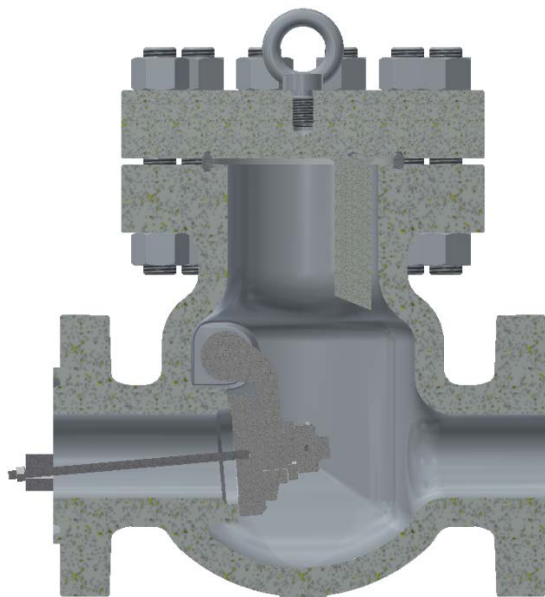

Fig. 2 Swing Check Valve with safety fuse
- The swing check valves nominal diameter \geq DN 100 are supplied with blocked disc how to prevent damage to the sealing surfaces during transport. Before installation it is necessary to remove the safety fuse (Fig. 2)